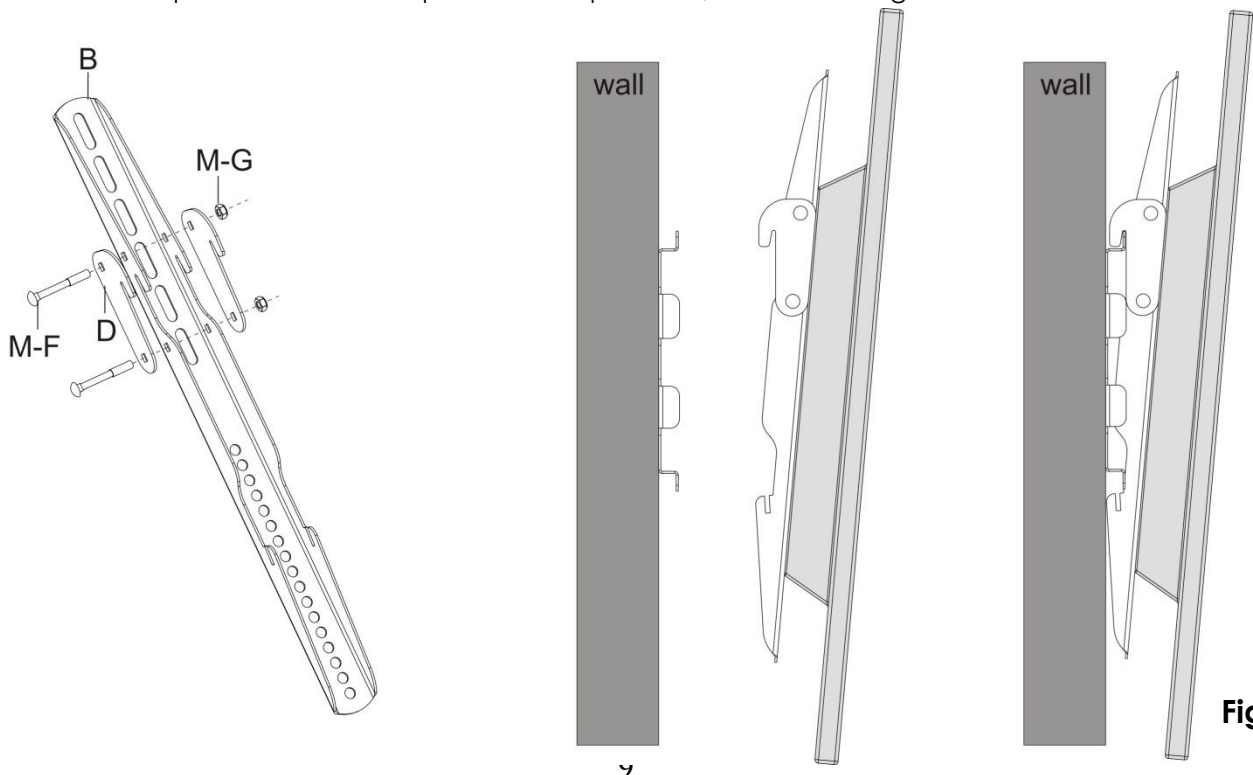

Fig. 8
- Attach the tilt option (D) to the TV rails by using the M6 screws (M-F) and the M6 lock nuts (M-G) as shown in Fig. 8.
- After the wall mounting bracket has been safely secured to the wall, carefully lift your TV (with 2 people) and hook the top hooks over the top of the wall plate rail, as shown in Fig. 8.